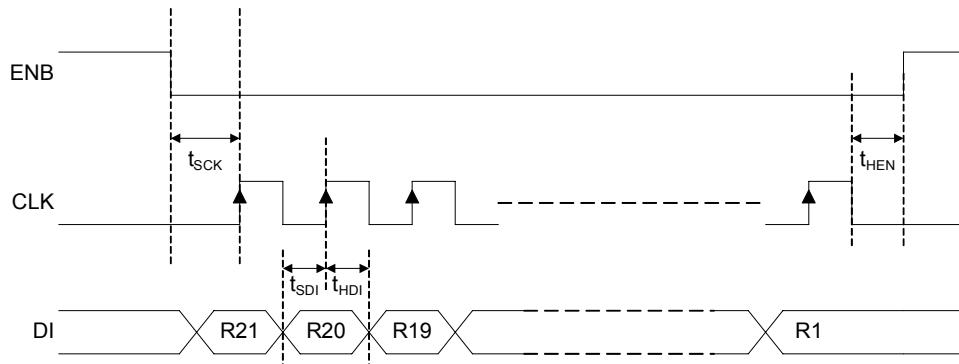

FIGURE 27. TIMING DIAGRAM FOR PROGRAMMING THE INTERNAL REGISTERS OF THE QLx4600-SL30
Pins 16 (DI), 45 (ENB), and 46 (CLK) are used to program the registers inside the QLx4600-SL30. Figure 27 shows an exemplary timing diagram for the signals on these pins. The serial bus can be used to program a single QLx4600-SL30 according to the following steps:
The DO pin (pin 17) can be used to daisy-chain the serial bus among multiple QLx4600-SL30 chips. The DO pin outputs the overflow data from the DI pin. Specifically, as data is pipelined into a QLx4600-SL30, it proceeds according to the following flow. First, a bit goes into shadow register 1. Then, with each clock cycle, it shifts over into subsequent higher numbered registers. After shifting into register 21, it is output on the DO pin on the same clock cycle. Thus, the DO signal is equal to the DI signal, but delayed by 20 clock cycles. The timing diagram for the DO pin is shown in Figure 27 where the first 20 bits output from the DO are indefinite and subsequent bits are the data fed into the DI pin. The delay between the rising clock edge and the data transition is t_{CO} .